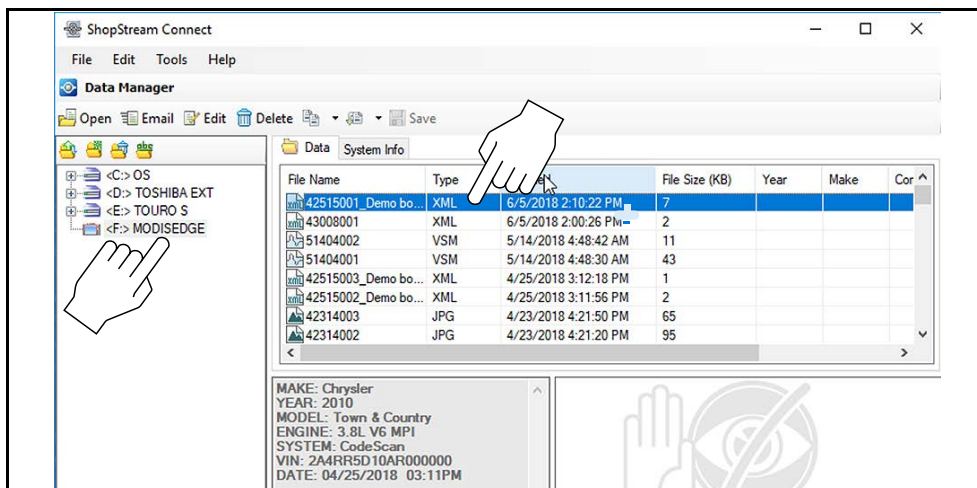
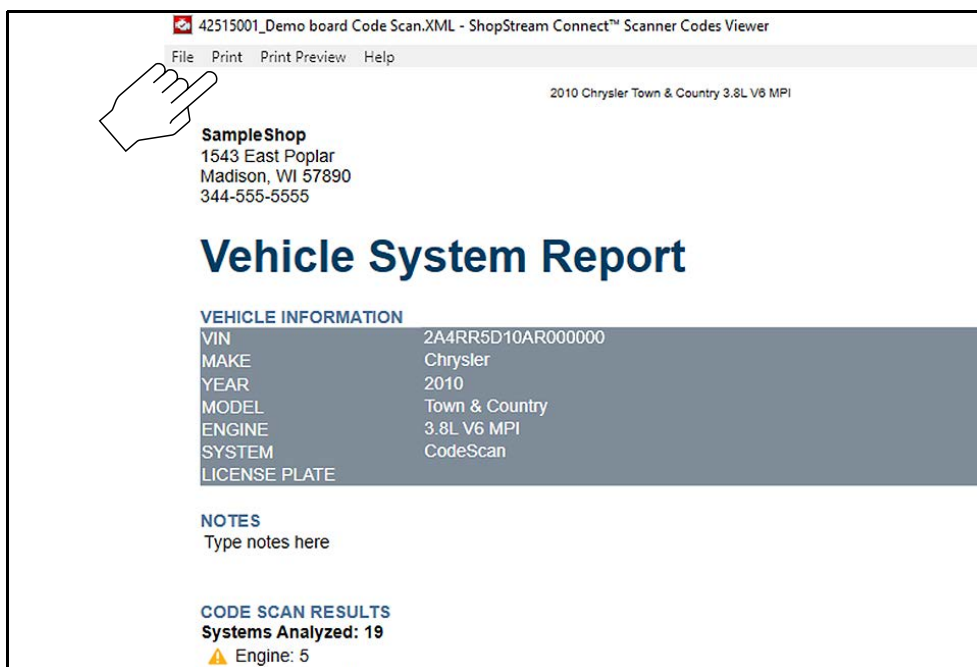

Figure 15-5
Figure 15-6
1. Double-click the code scan .XML file from the file list to open the Vehicle System Report (Figure 15-5) in the Code Scan Viewer (Figure 15-6).
2. Select **Print** or **Print Preview** from the Code Scan Viewer menu to print or preview the Vehicle System Report (Figure 15-6).